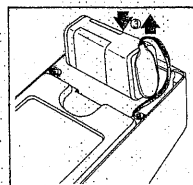

Fig. 2
- ① Connect the input jack to your instrument. The circuit is automatically turned on when a plug is inserted.
- ② OVERDRIVE — Adjusts the amount of distortion.
- ③ TONE — Controls the amount of high frequency contour. Adds bite to the sound or makes it mellower.
- ④ LEVEL — Controls the level of the distorted signal, but does not effect the normal signal. Useful for matching the distortion level to the normal level when switching the effect in and out.
- ⑤ Soft touch FET electronic switch changes EFFECT/NORMAL.
- ⑥ LED indicator comes on when effect is on. If it is dim or does not light, replace the battery.
- ⑦ EXT D.C. — When using external D.C. supply, internal batteries are switched off.
- ① Push the tab marked "OPEN" and lift up.
- ② Replace the battery as shown in figure 2.
- ③ Put the battery cover into the groove and push to the end.